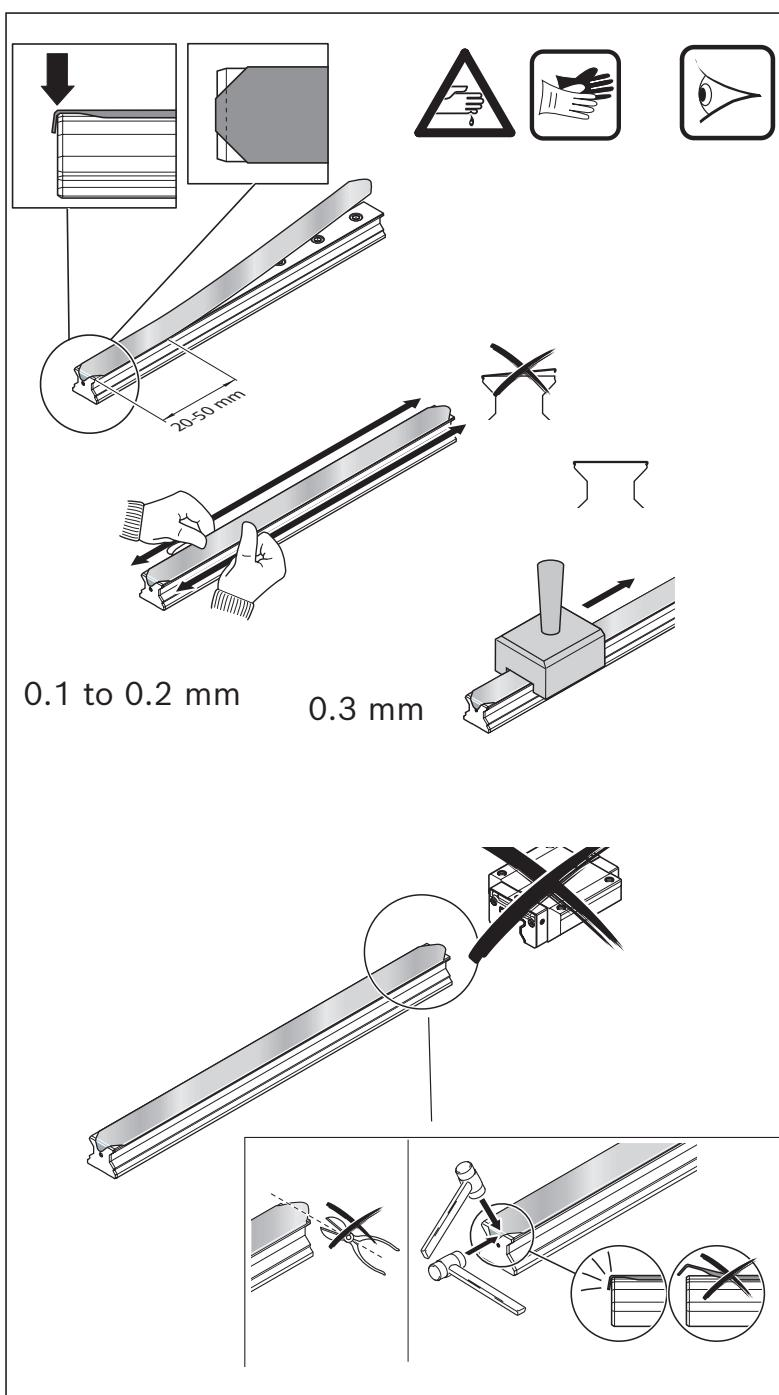

Fig. 37: Mounting custom-length Rail Seals
**⚠** **Fig. 37**
- Use a plastic mallet to shape the tongue flush round the rail end. Do not cut the tongue off! **Fig. 37**
**⚠** The Rail Seal must fit snugly around the end of the guide rail! **Fig. 37**
- ▶ Mount the Rail Seal, starting at the end with the angled-off tongue. ➔ Fig. 37
**⚠** The Rail Seal must fit snugly around the end of the guide rail! No burrs permissible! If necessary, correct the fit ➔ Fig. 37.